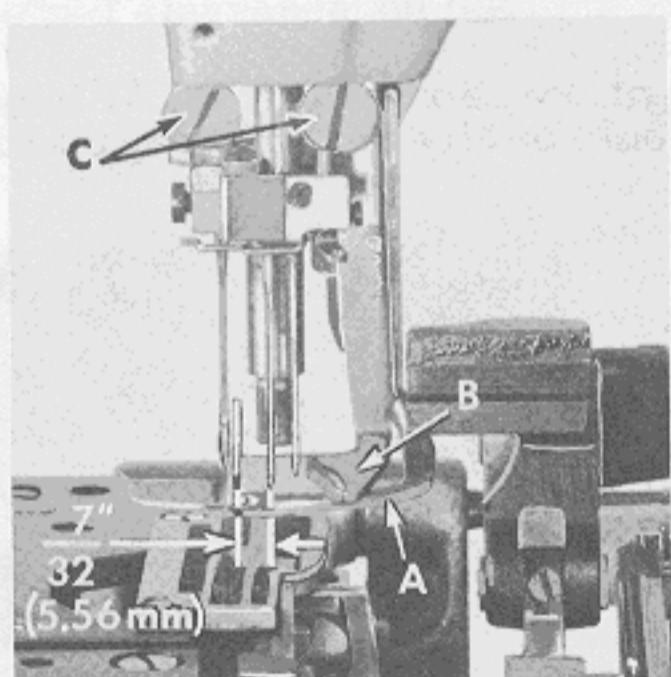
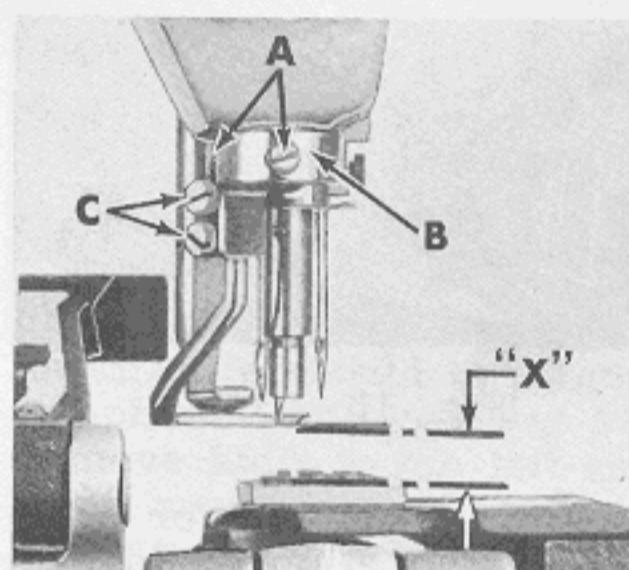

Fig. 11
Fig. 12
With the needle bar in its up position, and the spreader (A, Fig. 11) at the left end of its stroke, the upper spreader point should extend 7/32 inch (5.56 mm) to the left of the centerline of the center needle. This is accomplished by loosening screws (A, Fig. 12) and rotating spreader holder (B) to position the upper spreader point. Retighten screws.
CAUTION: The spreader holder is also the lower thrust collar for the spreader shaft, so when tightening screws (A, Fig. 12) be sure to push down on the spreader shaft and up on the spreader holder.
The spreader should clear the left needle shank by 1/64 to 1/32 inch (.40 to .79 mm) on all machine Styles. The bottom of the spreader should be 21/64 inch (8.33 mm) above the throat plate on machine Style 57900 H and 27/64 inch (10.72 mm) above the throat plate on machine Style 57900 N ('X', Fig. 12). Adjustment can be made by loosening screws (C, Fig. 12) and position spreader as required.
The left edge of the spreader thread guide (B, Fig. 11) should clear the right needle by approximately 3/32 inch (2.38 mm) and be kept close to the top of the spreader. This can be accomplished by loosening screws (C) and moving the guide as necessary.